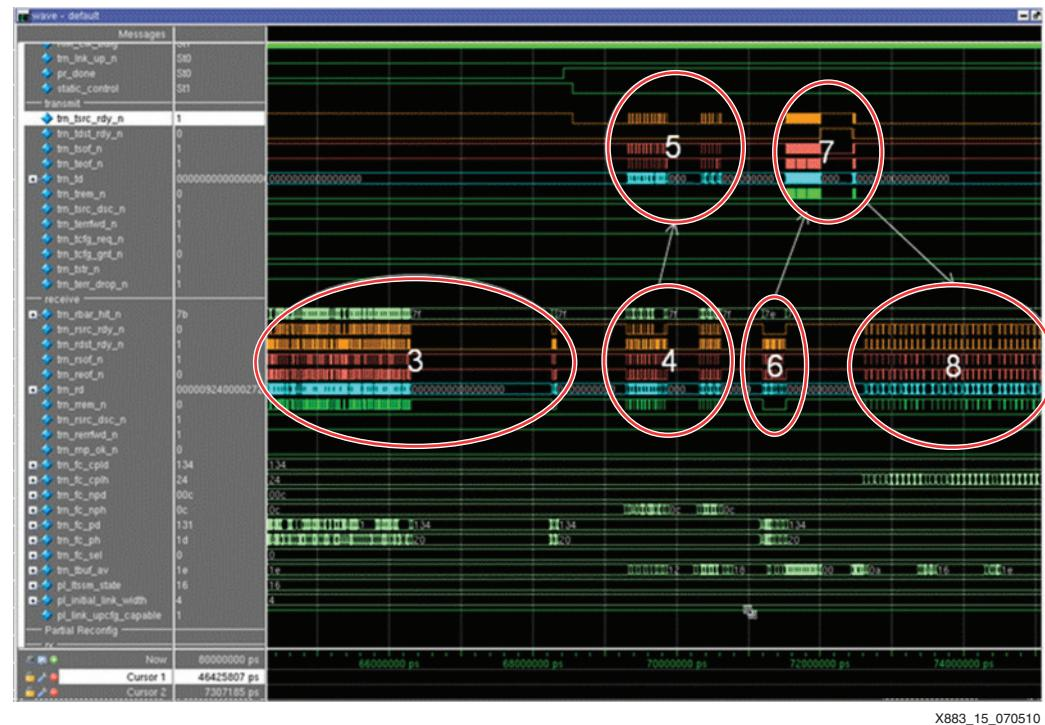

Figure 15: Simulation Waveform (End)
3. After sending the last partial reconfiguration word, the host releases the EOC sequence and signals the PR loader to terminate the partial reconfiguration process. This is indicated by the pr_done signal. Soon after, the signal static_control, which controls the PCIe system interface connections, switches over to the BMD (see Figure 15).